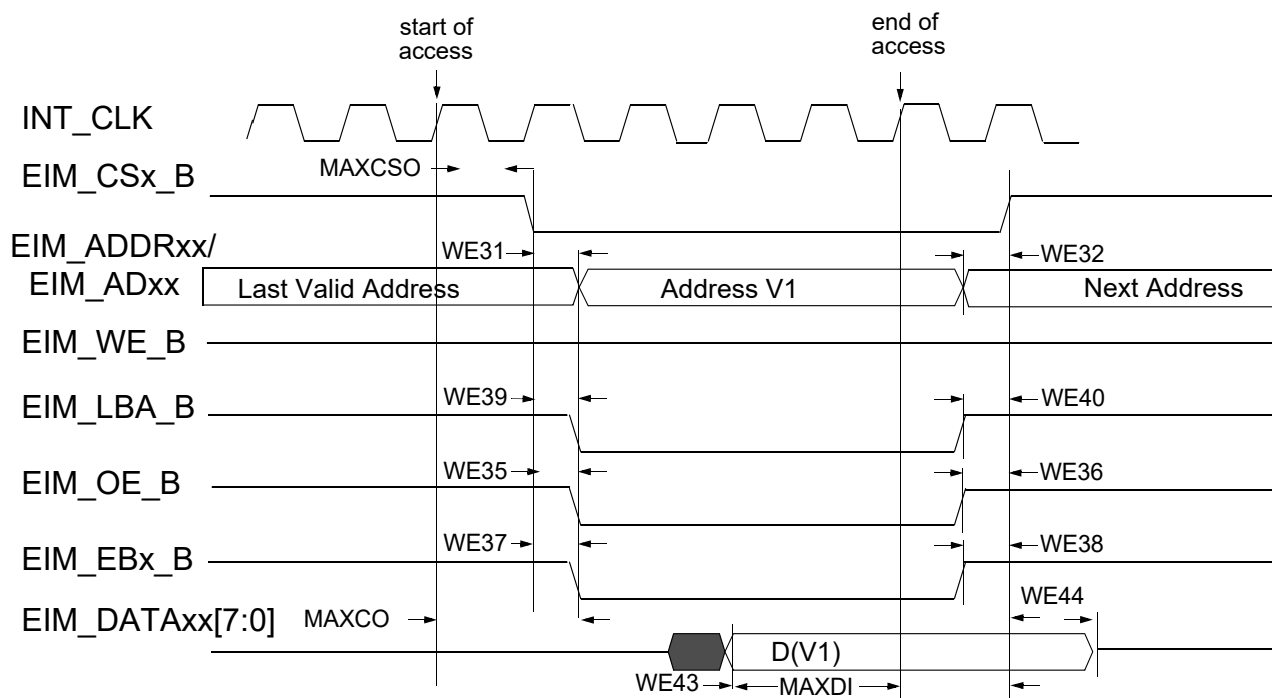
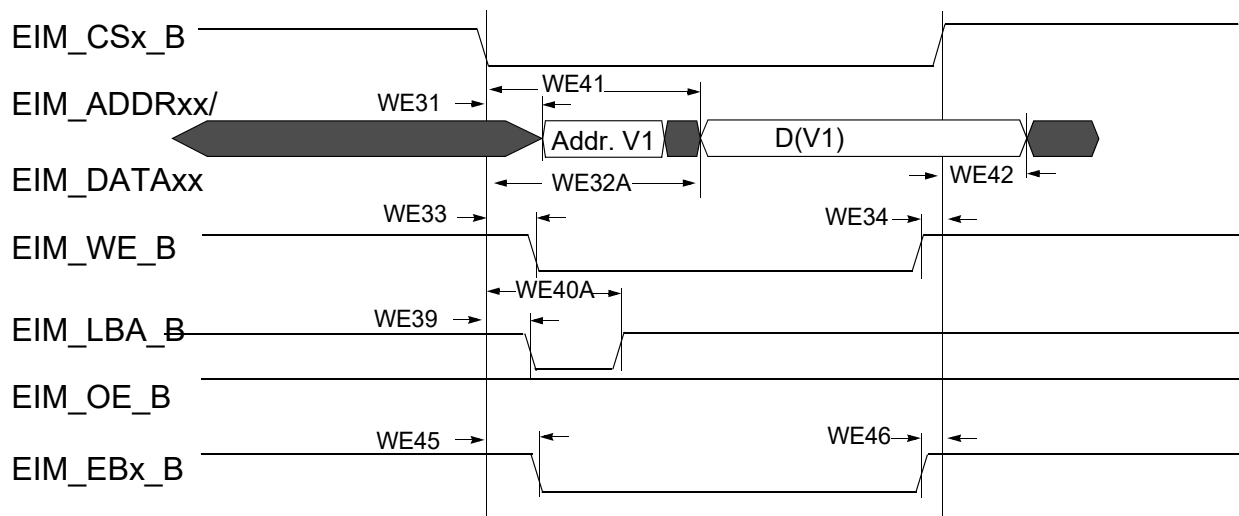
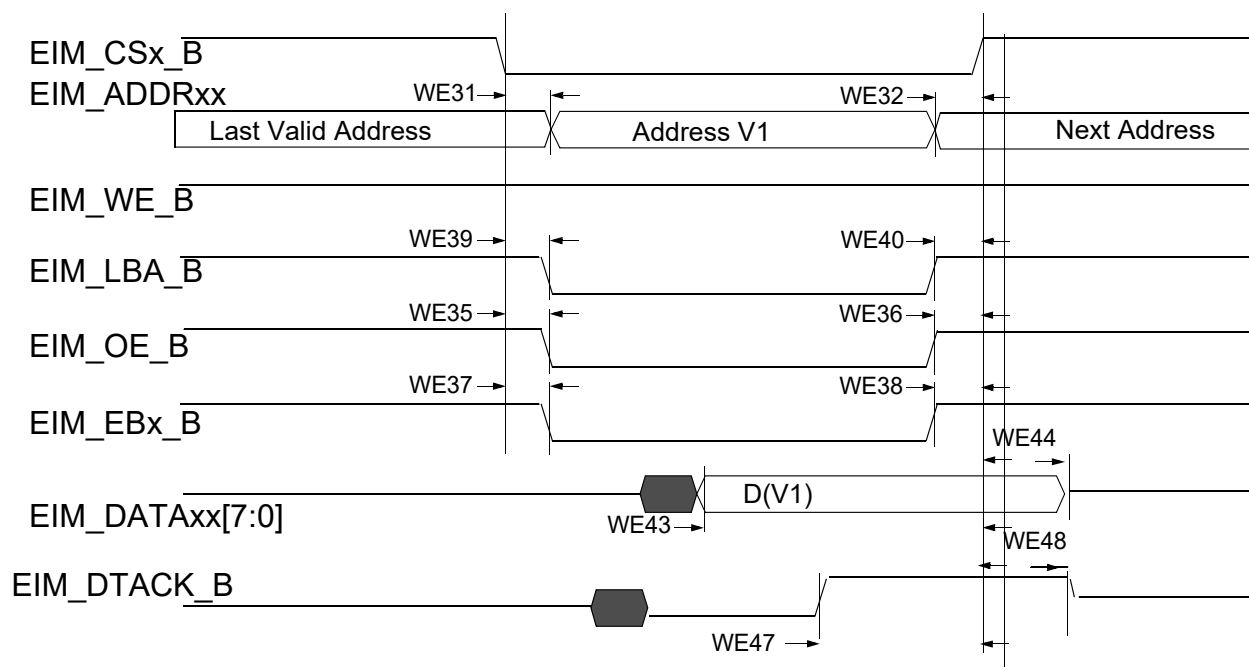

Figure 15. Asynchronous memory read access (RWSC = 5)
Figure 18. Asynchronous A/D Muxed write access
Figure 19. DTACK mode read access (DAP = 0)
Figure 15 through Figure 19, and Table 38 help to determine timing parameters relative to the chip select (CS) state for asynchronous and DTACK EIM accesses with corresponding EIM bit fields and the timing parameters mentioned above.
Asynchronous read & write access length in cycles may vary from what is shown in Figure 15 through Figure 18 as RWSC, OEN and CSN is configured differently. See the *i.MX 6ULZ Reference Manual (IMX6ULZRM)* for the EIM programming model.